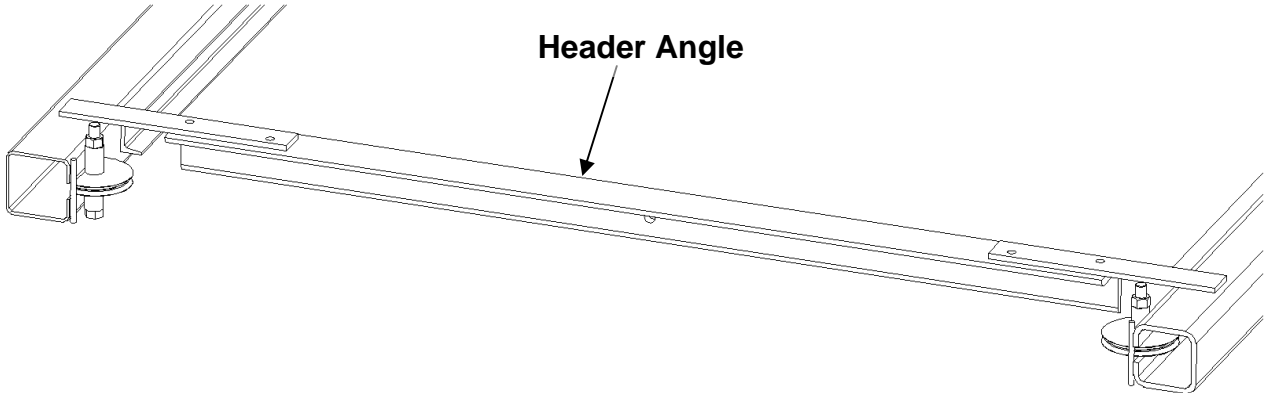

Figure 7 - Header Angle
2. After the posts are in position, attach the header angle with the four 3/8"-16 UNC x 1 1/4" hex head cap screws and nylock nuts that have been supplied (see **Figure 7**).